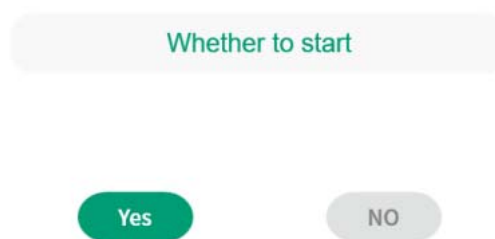

Figure 6-1 Program Run Confirmation
- Click "Start running" button and the system will pop up a window to prompt "Whether to start.", as shown in figure 6-1.